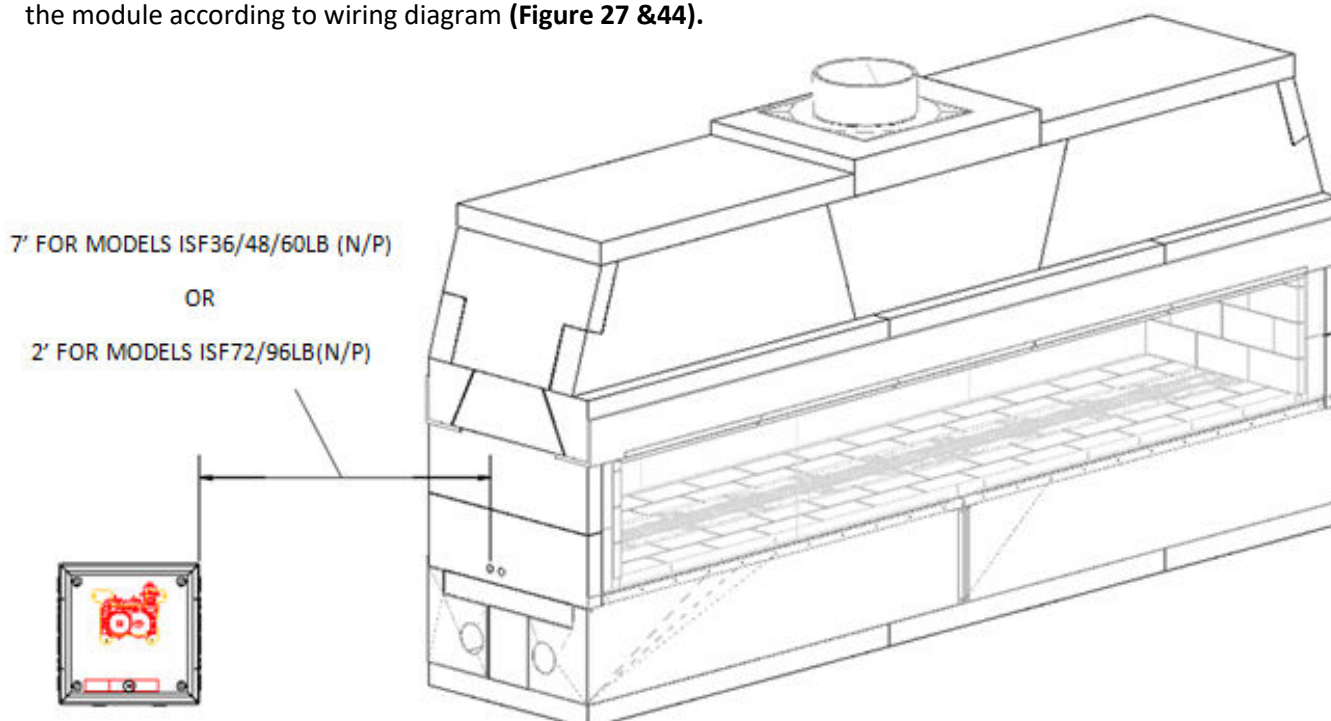

FIGURE 41
- 1) The valve control box comes with an 110" pilot assembly lead; therefore, the box must be mounted within 7' of the fireplace for burner models ISF36/48/60LB (N/P) and within 2' for models ISF72/96LB (N/P). **(Figure 41)**